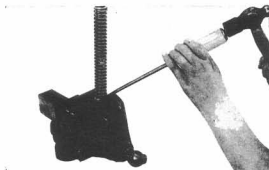

Fig. 65
- (4) Fix the cushion upper holder with a vise as shown in Fig. 65 and hit the end of the cushion spring with a steel hammer through a driver to remove the spring from the upper holder. Excessive care should be taken not to damage the upper holder because it is aluminum alloy.